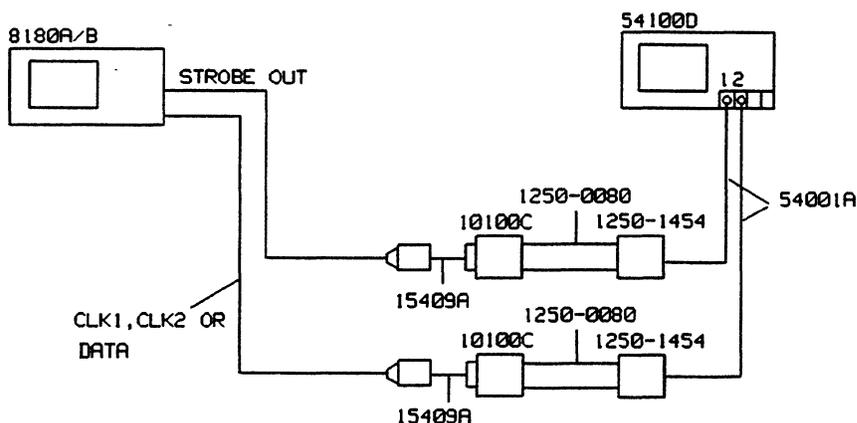

Figure 11-2. Test Setup for the Clock and Data Skew Test
6. Connect the equipment as shown in Figure 11-2. Switch outputs ON and start the generator